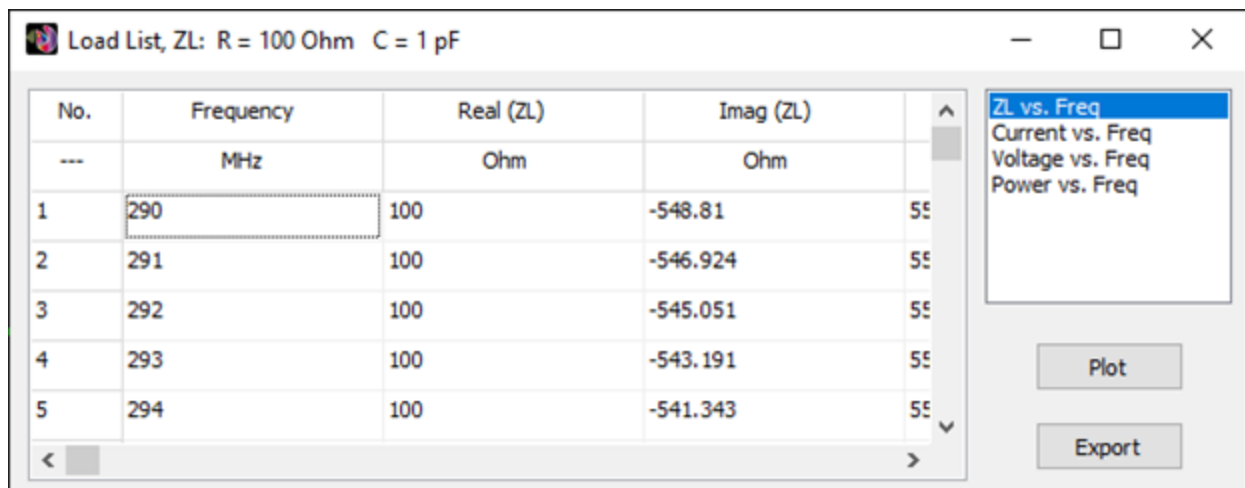

Fig. 5: The "Load List" dialog box.
- **Load List:** Enabled if the segment contains a load. It displays load impedances, currents, voltages, and powers. Like the other lists, these values can be plotted against frequency or exported (**Fig. 5**).